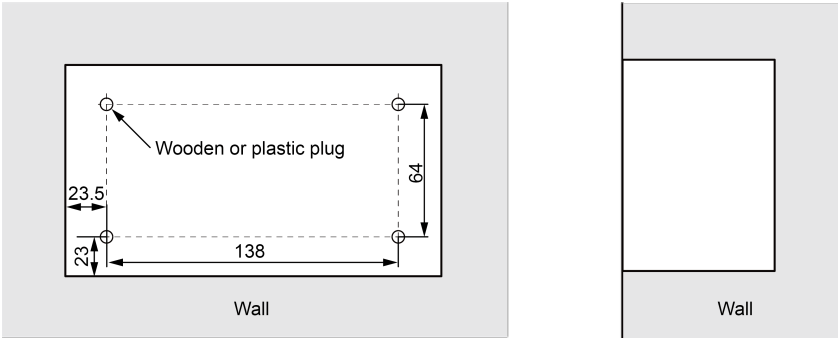

Fig.3.12 Diagram of Wooden or Plastic Plug
- 1) In case that the centralized controller is installed on wall, dig a hole that is the size of 180mm×107mm×62mm and peg 4 wooden or plastic plugs on the wall according to fig.3.12.